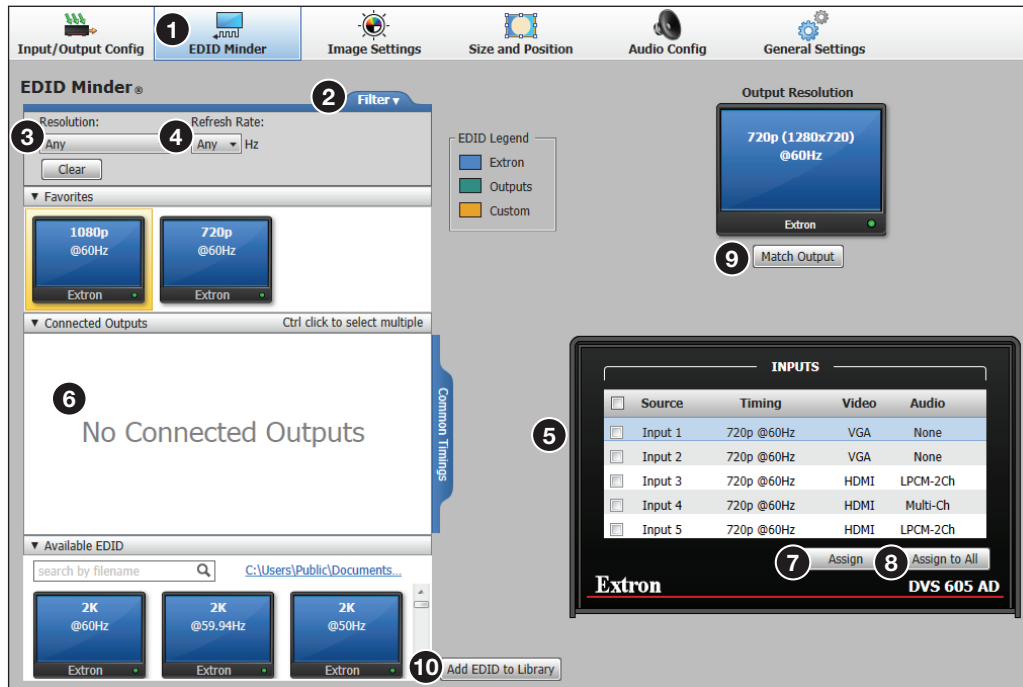

Figure 53. EDID Minder Page
EDID Minder is an EDID management process that manages the EDID information between the scaler and one or more input sources. Click the **EDID Minder** icon (see figure 53, ①) on the global navigation bar to open the EDID Minder page.
1. From the Favorites, Connected Outputs, or Available EDID pane (see figure 53, 6 on the previous page), select an EDID.